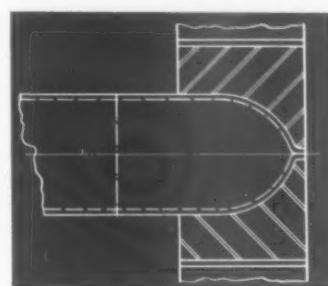

FIG. 5. Section through dies for closing end of tubing to bullet nose.
In swaging bullet nosed shapes, as shown in Fig. 5, one proceeds largely as above. In this case, however, the metal has no chance to "flow"; instead, it tends to thicken, at the nose, as it is displaced by the successive blows of the dies. This thickening may be advantageous, especially when swaging return bend tubes such as are used in steam boilers.
for jewelry—may be pointed as fast as an operator can insert them, with the added advantage that gold plating on the wire is thickened, near the point, and made harder, thereby adding to resistance against wear. A basis for comparison, a tube 3" in diameter (as in Fig. 5) may be closed in a few seconds.
All of the makers of carbide lathe tools furnish carbide-tipped tool bits in sizes comparable to and interchangeable with conventional high speed steel bits. However, these may not be successfully used with tool holders designed for high speed steel bits (Fig. 5-A) in which the tool slot is up-tilted besides which they usually lack the necessary support under the tool. Instead, one uses tool holders especially designed for carbide-tipped tools, as the Armstrong holder shown in Fig. 5-B. The comparison is so obvious that further elaborations seems unnecessary. However, the reader will note the "flat" cutting angle of holder B and the close-up support of the cutting edge.
Fig. 5. Tool holder at left designed for high speed steel bits; not suited to carbide tools. Holder at right (B) is especially designed for carbide bits. Armstrong tool holders shown.